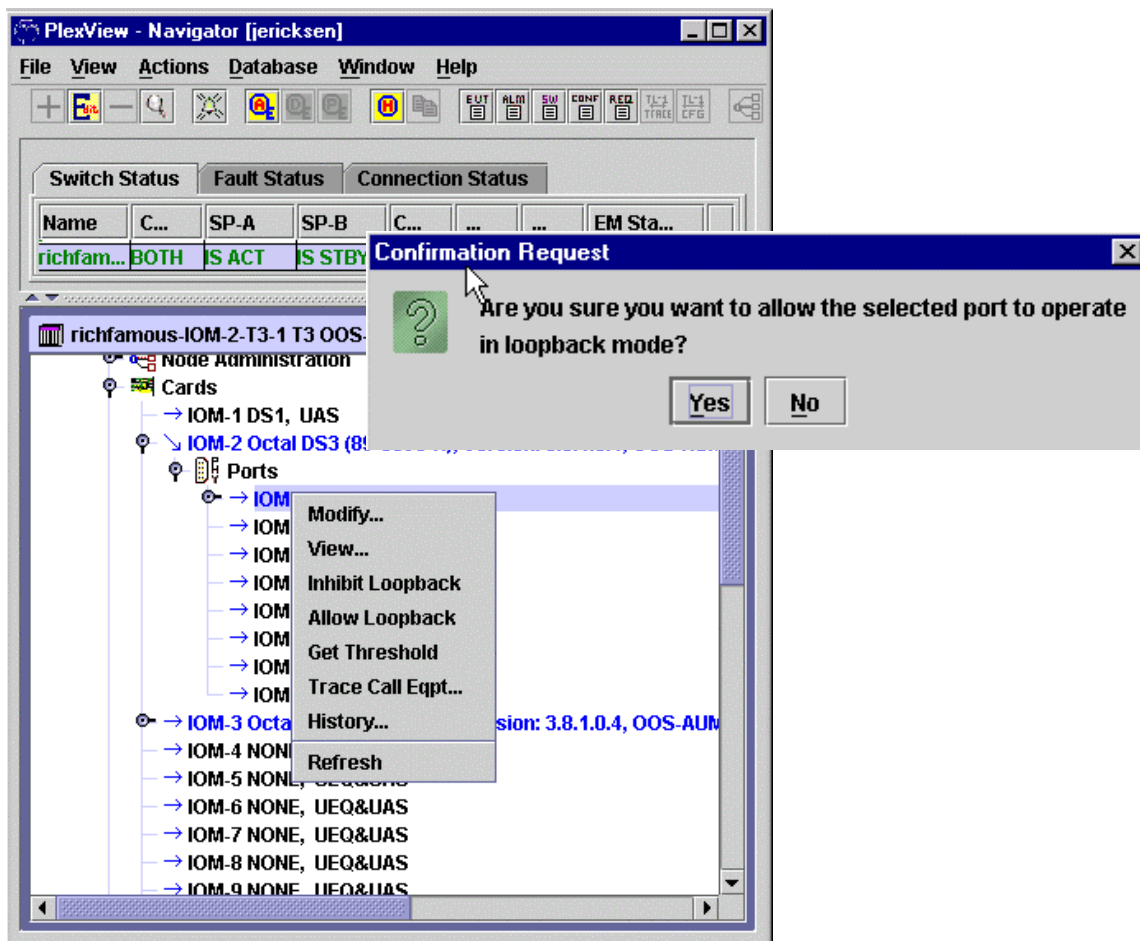

Figure 3. Allowing STS1 Loopbacks
8. Allow a port of the Plexus 9000 to respond to a remote STS-1 loopback request. Double-click the switch to select it for the main panel and then right-click the switch name. Click *Cards*, desired *IOM* and *Ports*. Right-click the desired port and select *Allow Loopback*. Click Yes in displayed frame to allow loopbacks. See Figure 3.